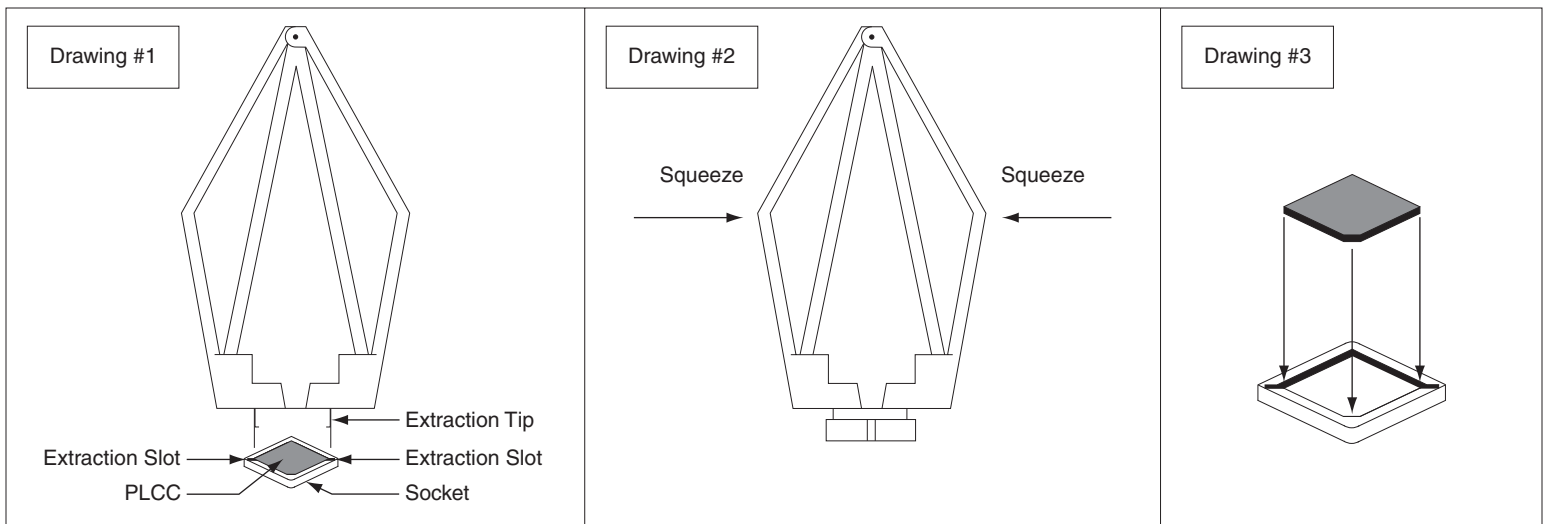

Figure 7
- a. Insert the extraction tips into the extraction slots of the socket until the tool bottoms on the socket. See figure 7, drawing number 1 for details.
- b. Squeeze the tool handles until the PROM backs out of the socket. See figure 7, drawing number 2 for details.
- b. Place the new PROM over the socket, aligning the flat corner of the PROM with the flat corner of the socket. See figure 7, drawing number 3 for details.